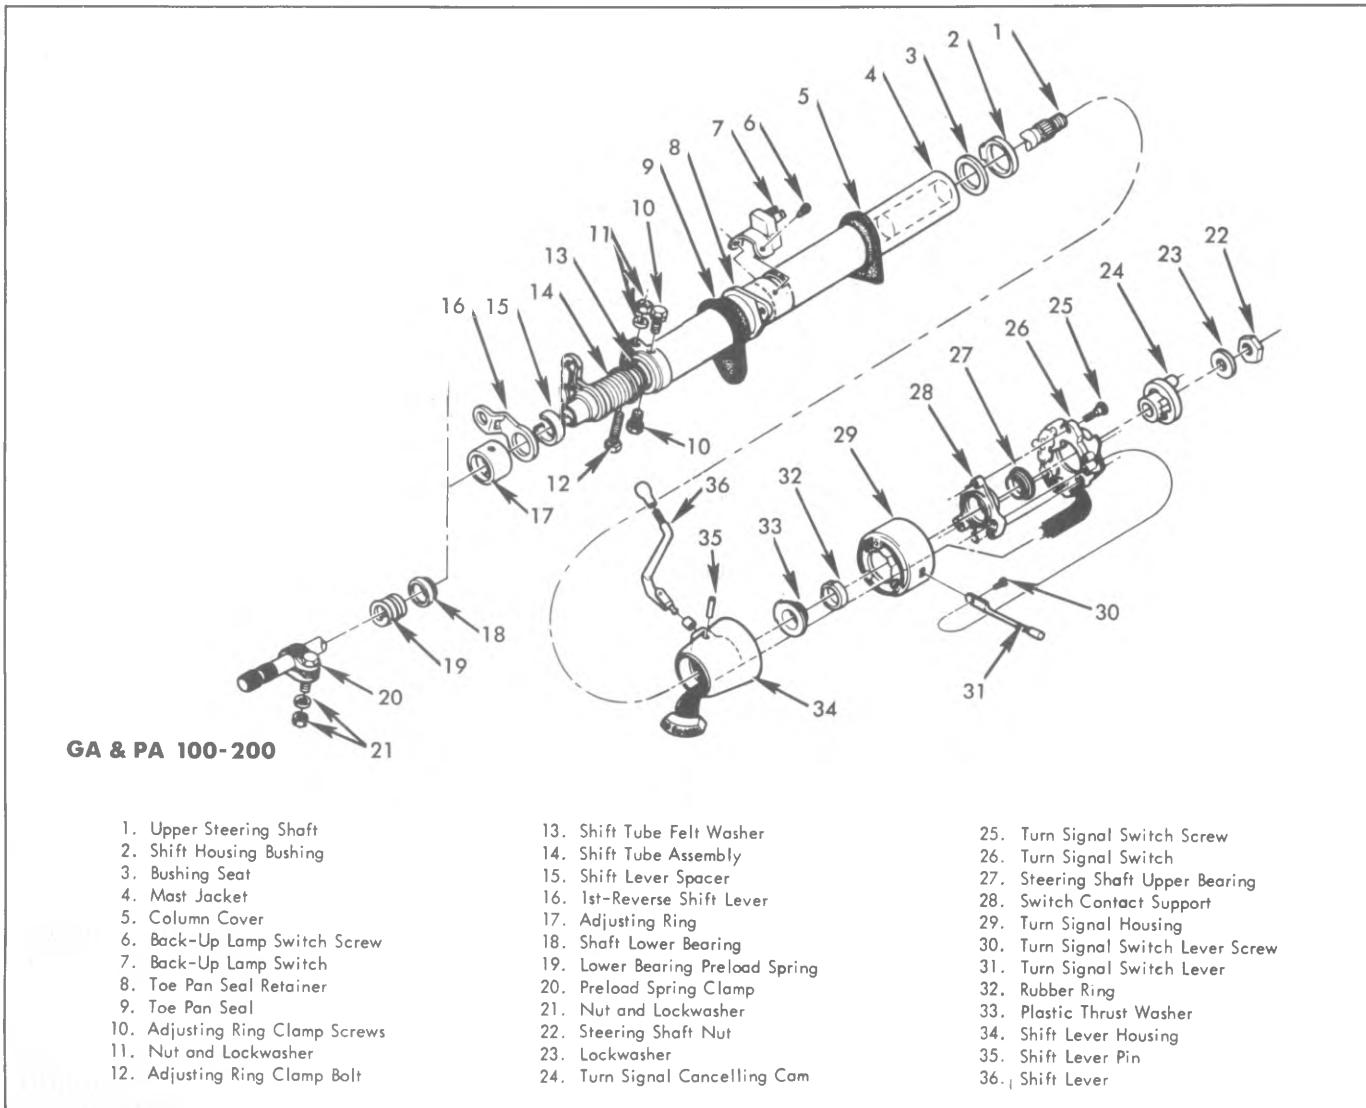

Fig. 3B-90--Standard Column-Typical G & P
Tilt Column (Fig. 3B-91)
1. If the column is removed from the vehicle, place the column in a bench vise using Holding Fixtures J-22573 (fig. 3B-92).
5. Install the tilt release lever and place the column in the full "up" position. Remove the tilt lever spring and retainer using a screwdriver that just fits into the slot opening (fig. 3B-93). Insert the screwdriver clockwise approximately 1/8 turn until the retainer ears align with the grooves in the housing and remove the retainer and spring.
7. Remove the two bearing housing pivot pins using Tool J-21854 (fig. 3B-94).